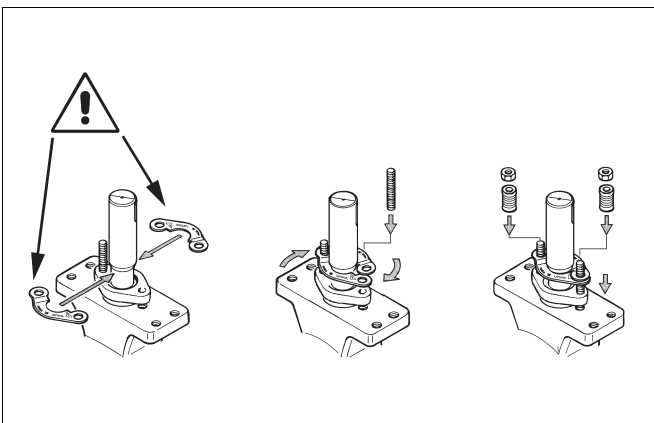

Fig. 10 Installing the retainer plates
In gland packings, tightness is ensured by the contact between the gland follower and the packing rings. See Fig. 10.
- Unfasten the nuts (25) and remove the retaining plates (42) and the gland follower (9).
- Remove the five old packing rings (20).
- Clean the packing ring counterbore. Mount the new packing rings one by one using the gland follower as a tool. Mount the retaining plates with the text UPSIDE on top (see Fig. 10).